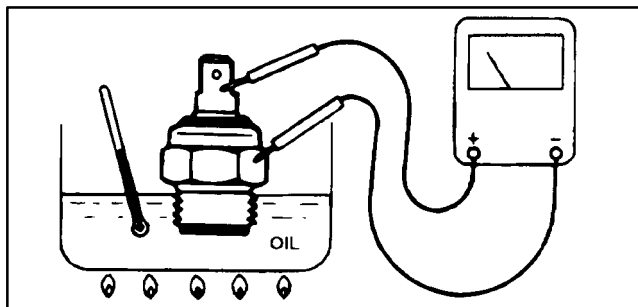

Figure 20
2. Put switch in a container of oil with a thermometer and slowly heat the oil (Fig. 20).